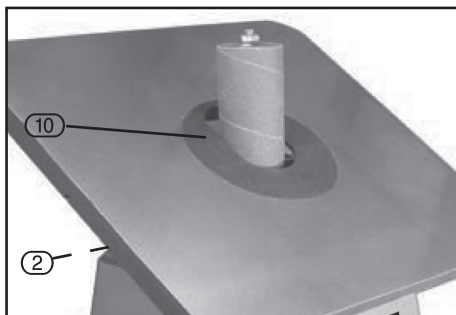

FIG.9
### 9.1 TILTING THE TABLE - FIG.9
The table will tilt 0°-45°. Once the desired angle has been set, tighten the two locking knobs found underneath the table (2) (FIG. 9).